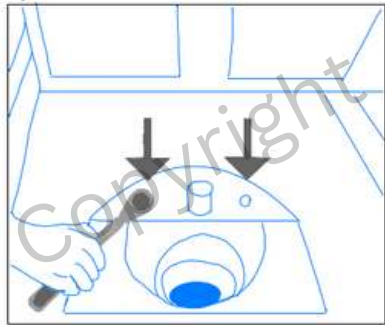

figure 3
3. Next, loosen the two screws (figure 3) located at the bottom of the dishwasher.